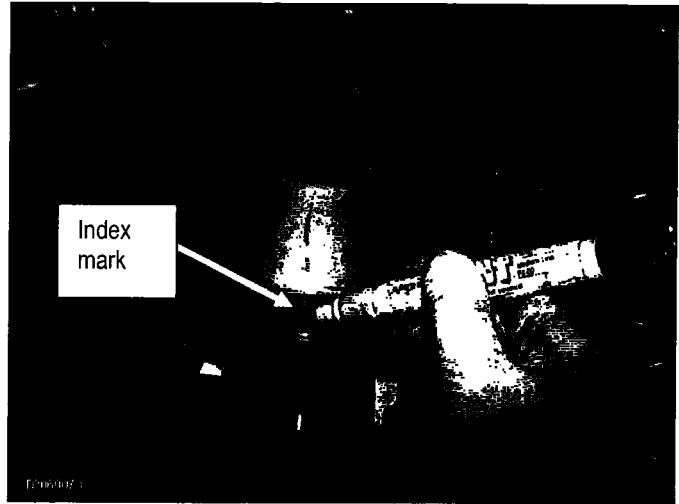

Figure 26
29. Place an index mark across the bushing and cross bar for proper re-assembly (see Figure 26).